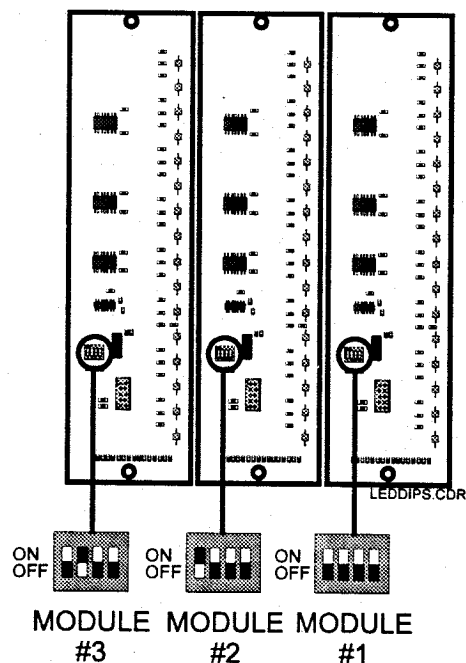

Figure 3.3 - LED/Switch Module Number Switch Settings
- If LED Annunciator/Switch Modules are used, install one connector of the multi-drop ribbon cable assembly (P/N 250173) in connector J1 of each of the annunciator modules, then install the remaining connector in connector J3 of the 2-LCD Display (Figure 3.2). Set the module numbers according to Figure 3.3. **NOTE:** Black indicates the switch position.